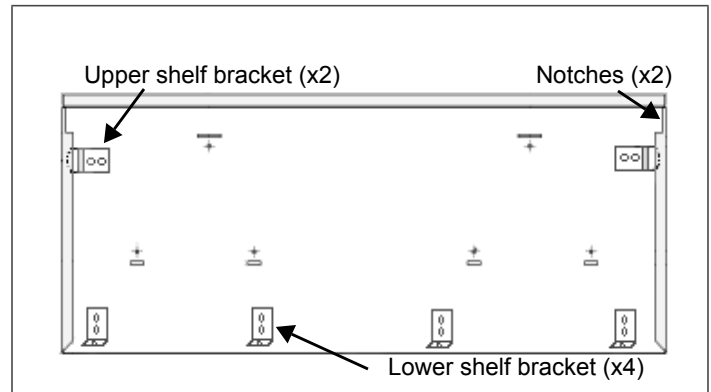

Figure 20: 48" Back of Wall Plate
2. Mount the (2) top shelf brackets and the (3) lower shelf brackets at the locations outlined on the templates. Secure with (10) 1" (25.4mm) screws provided.
4. Insert (3) U-Nuts onto the (3) lower shelf brackets.
5. Install the wall plate by setting the corner notches (back of wall plate) atop the (2) top shelf brackets. Slide the shelf upwards until the bottom engages with the (3) lower brackets (Figure 20).